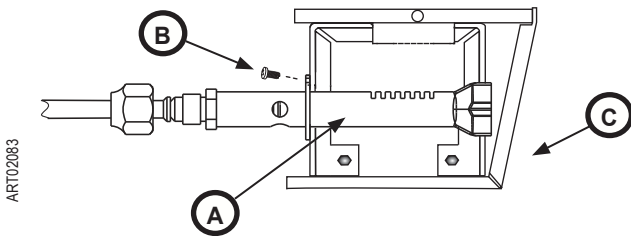

Fig. 8 - Burner and Burner Box
5. Remove burner screw (Fig.8,B). Remove burner (Fig.8,A). Lay aside.
7. Remove burner box mounting screw (Fig.8,C). Lay aside.
1. Fasten burner box in place using original screw (1x) (Fig.8,C).